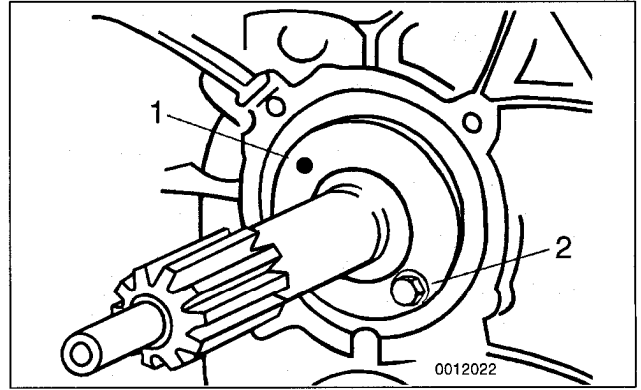

**Fig. 9.** Indent at oil seal housing (1). Punch holes in seal housing at indents and use sheet metal screw (2) to pull seal from transmission.
4. Locate two indents in seal housing. Use a punch or scribe to punch holes in housing at indents. Thread two sheet metal screws into holes and pull seal out using screws. See Fig. 9.